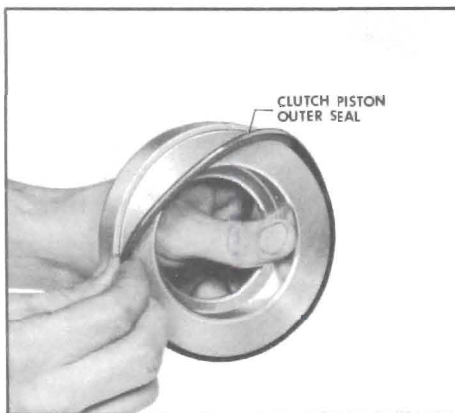

Figure 5-230
4. Lubricate with transmission oil and install new forward clutch piston outer seal in clutch piston. Seal lip must point down. See Figure 5-230.